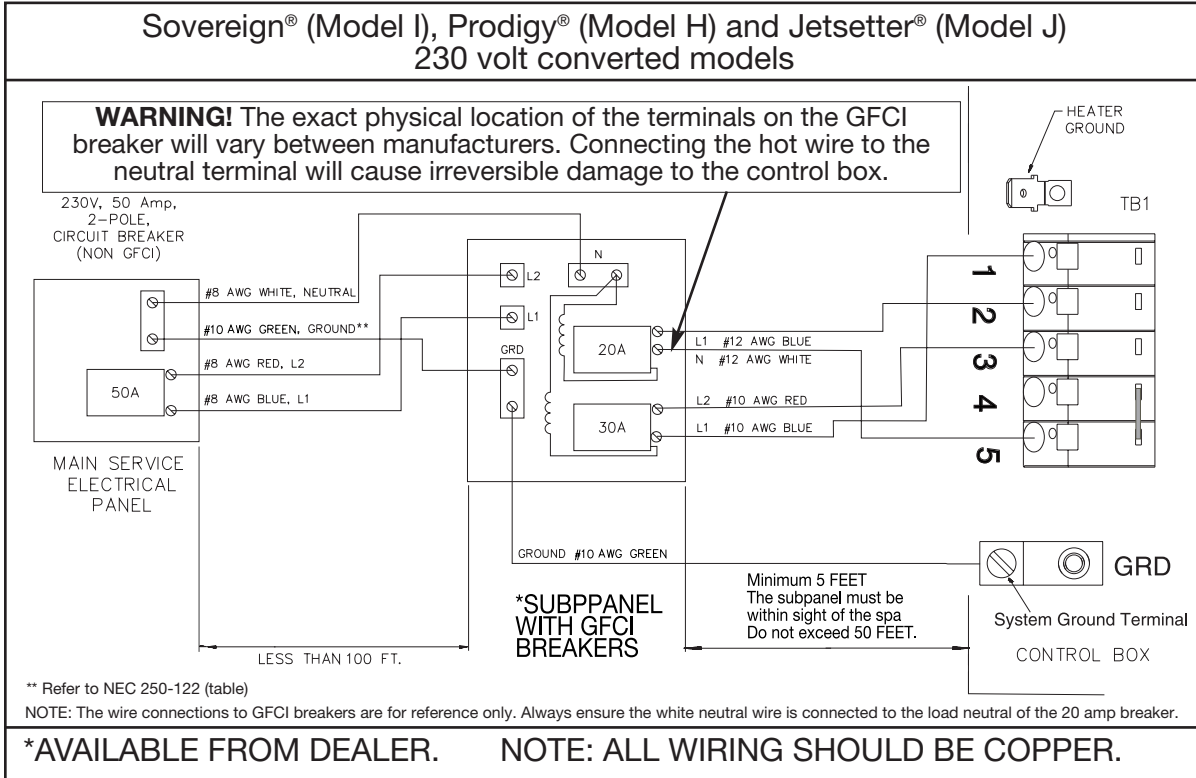

**Figure 2**
11. Use a pair of needlenose pliers to place the program jumpers as shown in Figure 2 (use Watkins P.N. 36021).
**NOTE:** The program jumpers JP-1, JP-2 and JP-3 must be set correctly for the spa to operate. Figure 2 illustrates the correct jumper settings.